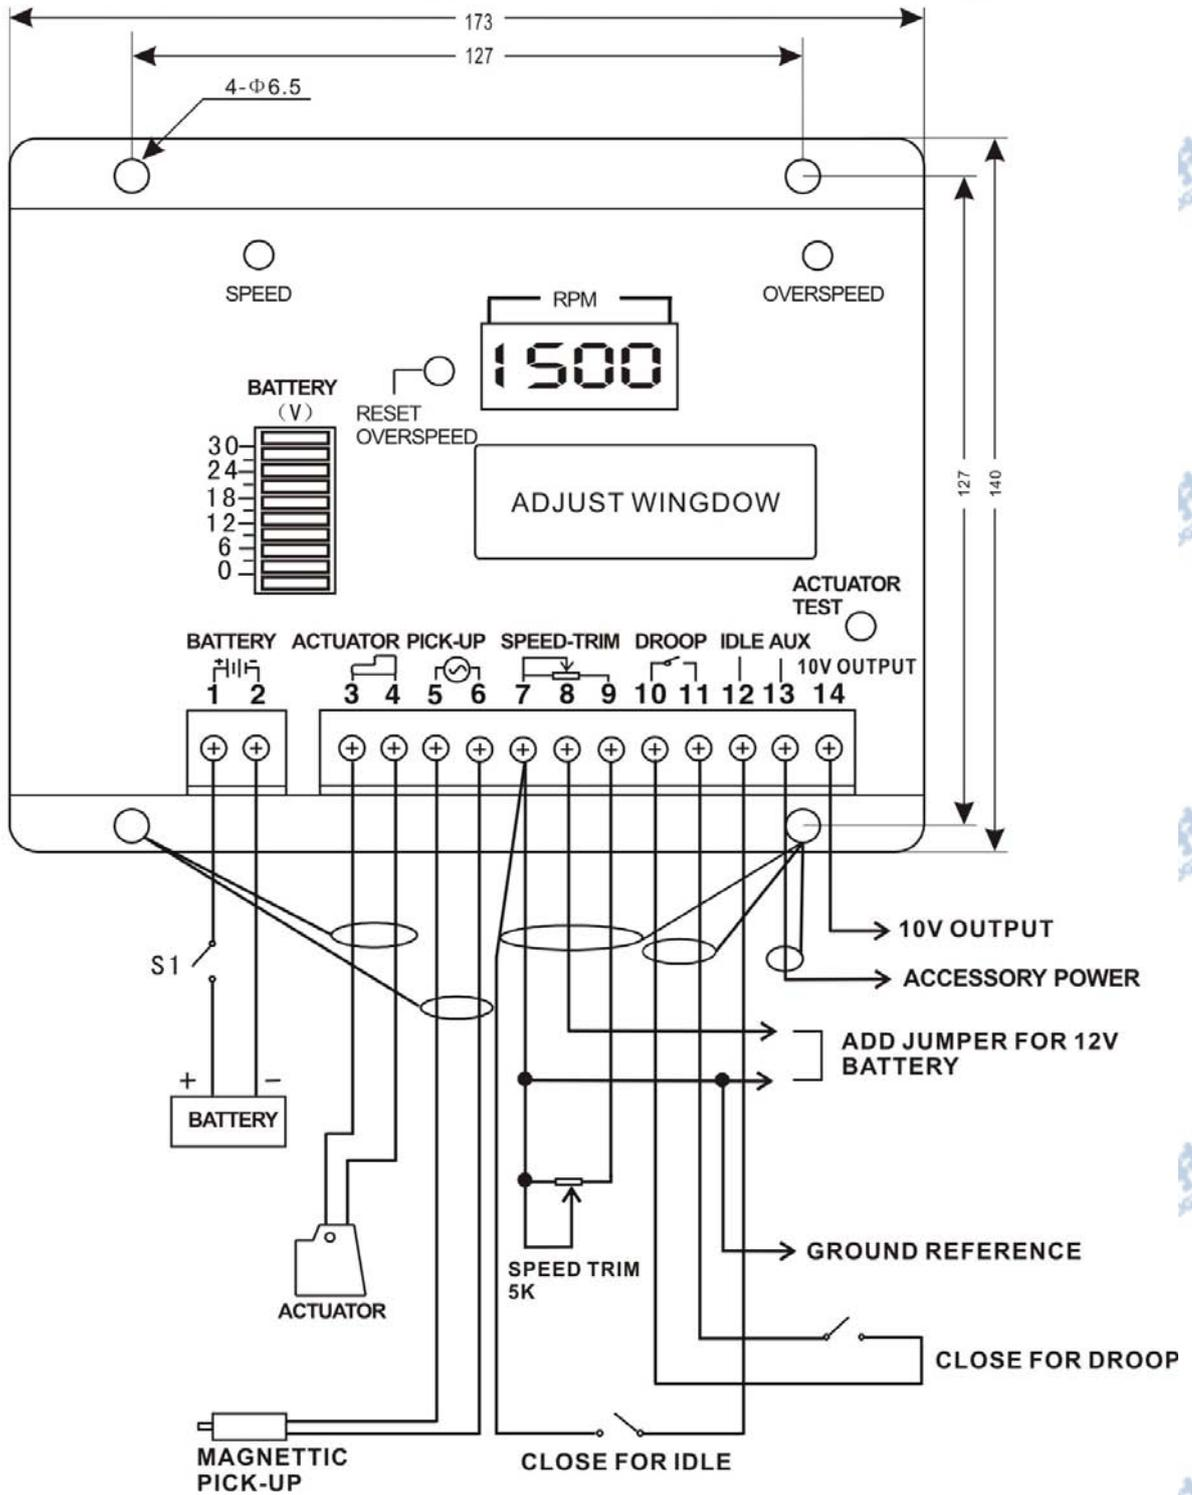
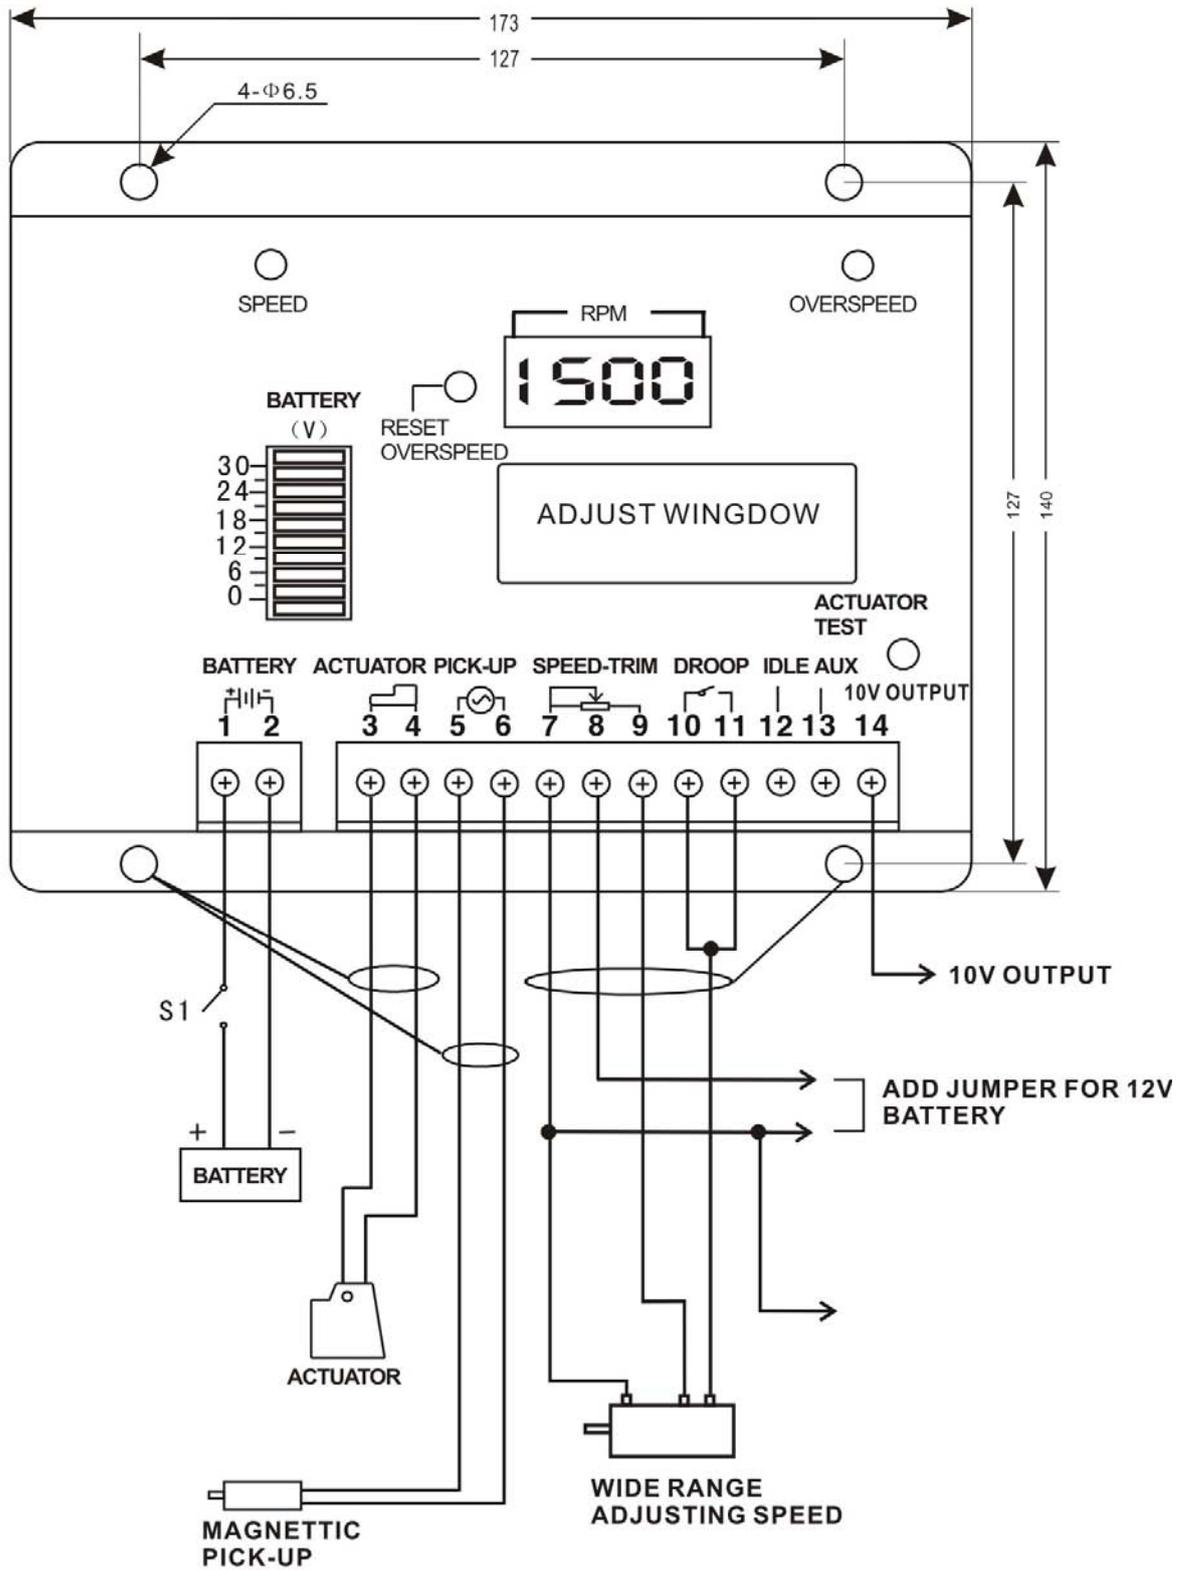

Fig.2 Electric connecting sketch map of the controller for normal generator
Fig.3 Electric connecting sketch map of the controller for a wide range of speed adjusting
Through connecting a potentiometer between the terminal 7.9.10(11), the wide range speed adjustment will be achieved just as the fig.3 show. Clockwise rotate, speed will rise. Otherwise, speed droop. The rotate speed adjusting Range is decided by the resistance potentiometer. Just as the following table show. When using this function, high speed potentiometer should be in middle position .
Installation dimension of speed governor is shown in fig. 2.
When using for generator set, the diagram of controller is shown in fig.2. Wide range speed adjusting diagram is shown in fig.3.accelerate
- Inspect whether the related electrical connections are correct according to fig. 2.